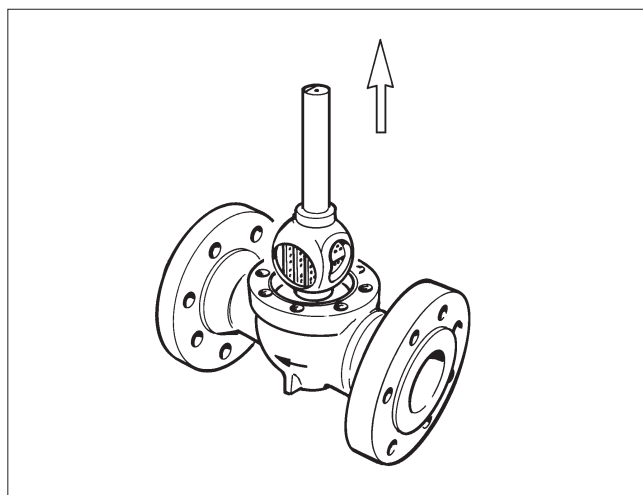

Fig. 11 Lifting the ball from the body
- Lift the ball. Check that the unbroken side of the ball does not rest on the seat, see Fig. 11.